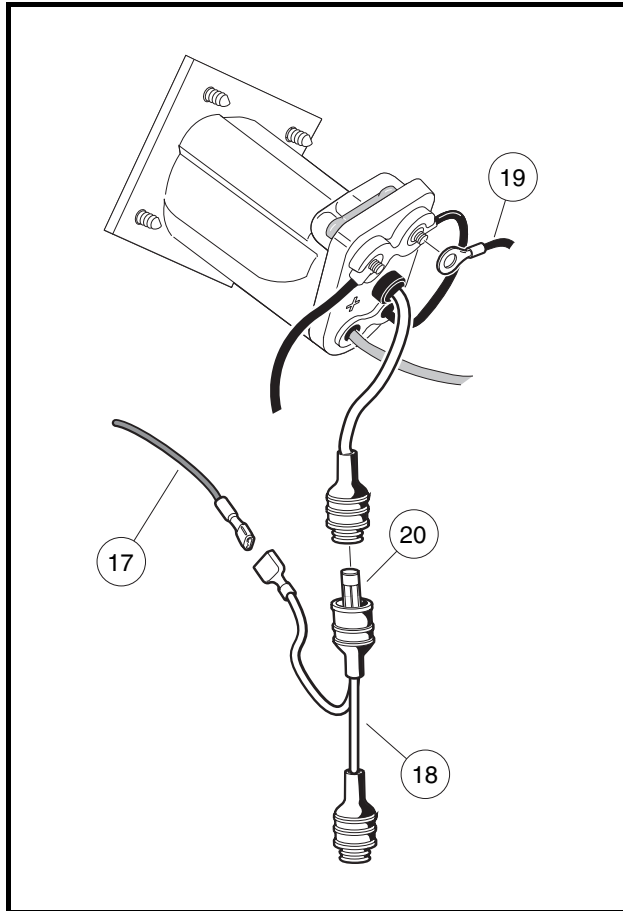

Figure 4-29 Charger DC Cord Black Wire and Blue Wire – DS Villager 4
3. Remove 10-gauge black charger DC cord wire (19) from the charger receptacle fuse link (Figure 4-29, Page 4-36).
5. Disconnect the 10-gauge charger DC cord blue wire (17) from the 3-way wire adapter (18) at the sense lead fuse (20) (Figure 4-29, Page 4-36).